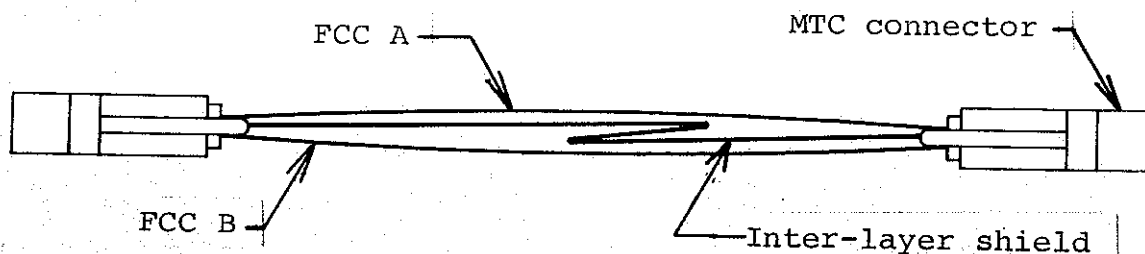

Figure 2. Location of Inter-Layer Shield in FCC Cable Assembly
5.2 Busbar and Inter-Layer Shield Preparation. An inter-layer shield is normally used between the two layers of FCC to isolate the two FCC layers from each other (Figure 2). The inter-layer shield is terminated along with an FCC to either the A or B insert of the connector, by means of a busbar (Figure 3). Busbars are also used for grounding FCC conductors.